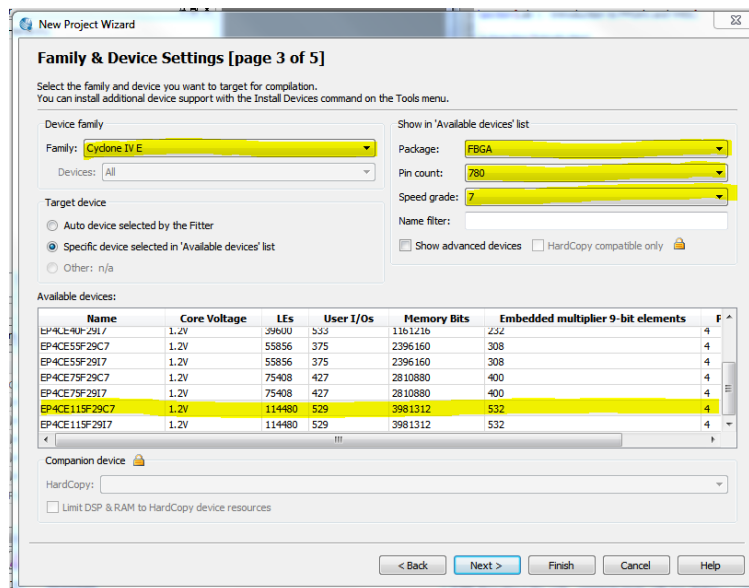

Figure 4: Device selection menu
9. Under Device Family select *Cyclone IV E*, set the package to *FBGA*, pin count to *780*, and speed grade to *7*. In the Available devices list, look for and select *EP4CE115F29C7* as shown in Figure 4.